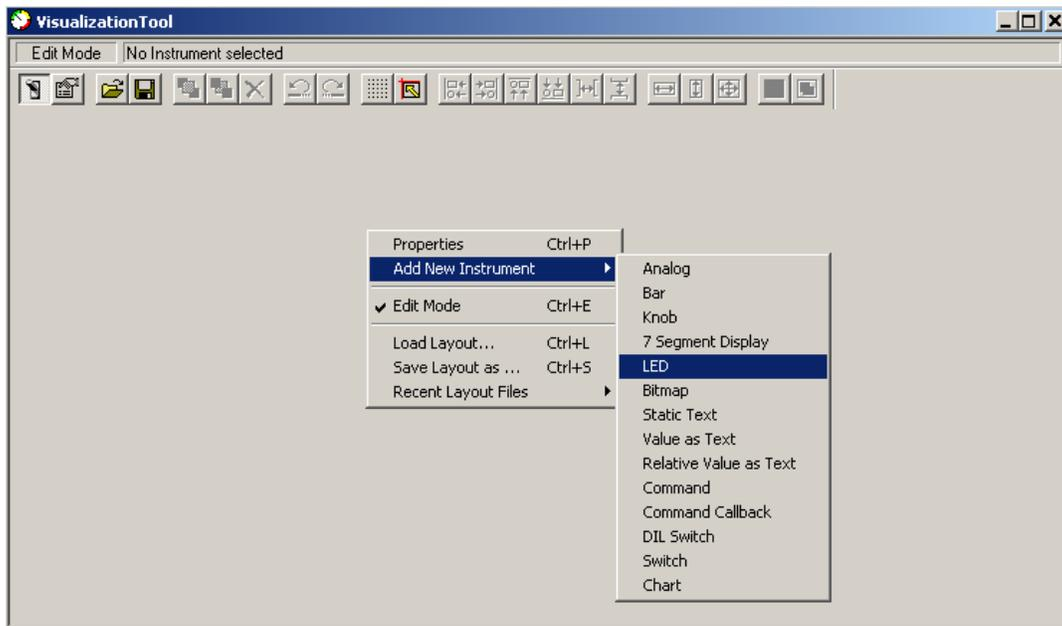

Figure 35. VisualizationTool
- Place the cursor somewhere in the middle of the screen and right-click. Select **Add New Instrument >LED**. See Figure 35.